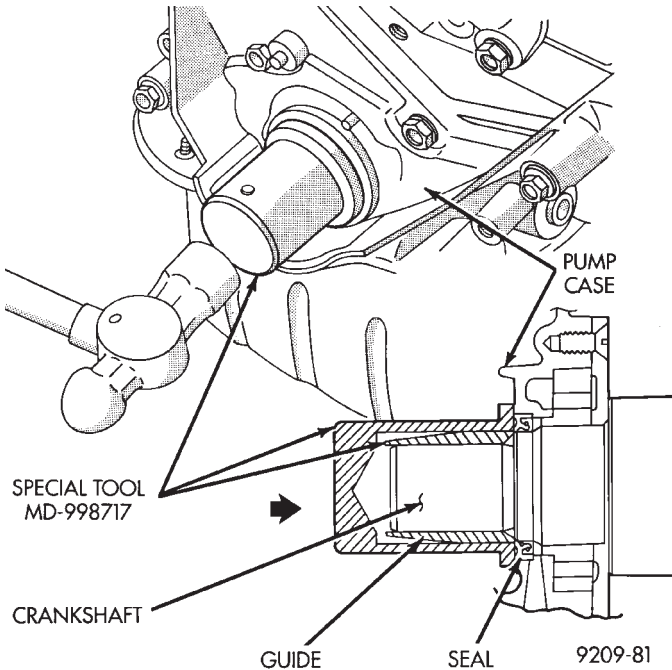

Fig. 74 Front Crankshaft Oil Seal
(1) Install front crankshaft seal into oil pump housing using Special Tool MD-998717 (Fig. 74).